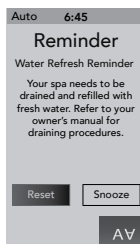

Figure 15.0f
25. Water Refresh Reminder: This message will appear when the “Water Refresh” timer has expired (Figure 15.0f). The water needs to be drained and refilled with fresh water.